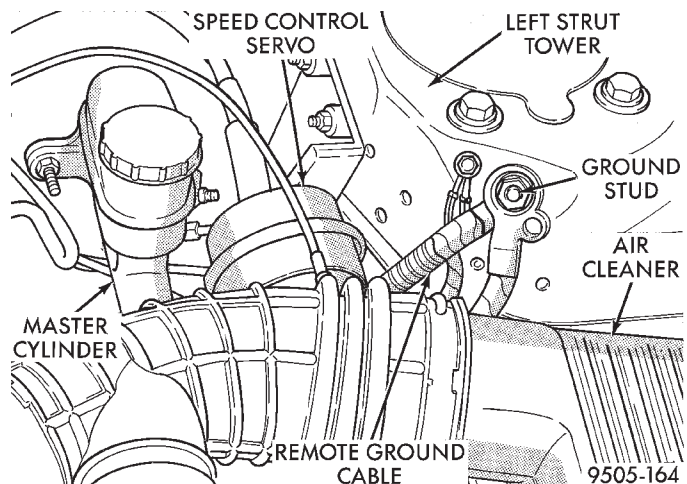

Fig. 101 Ground Cable Attachment To Strut Tower
(1) Remove the remote ground cable from the ground stud located on the left shock tower (Fig. 101).
(20) Install the remote ground cable (Fig. 101) on the ground stud located on the left strut tower (Fig. 101). Install and securely tighten the ground cable attaching nut.
(21) Check brake light switch for correct adjustment. If required, adjust stop lamp switch as necessary. See required procedure in the Service Adjustments Section in this group of the service manual.
(22) Road test vehicle to ensure proper operation of the vehicles brake system.